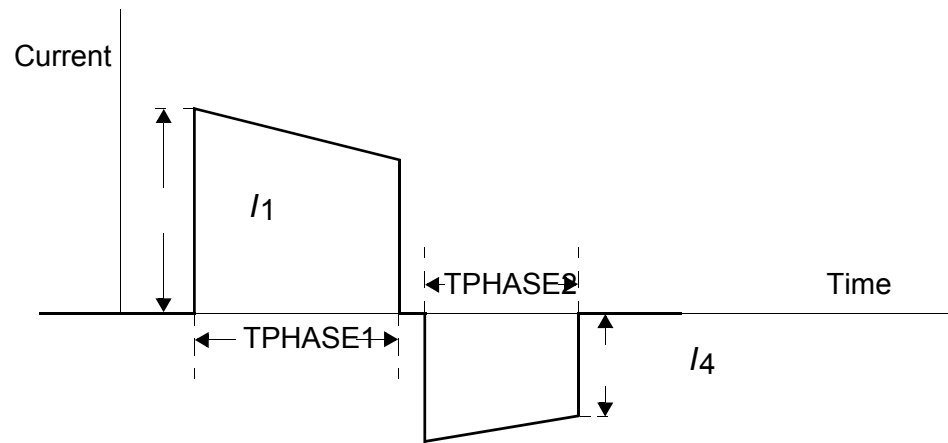

Figure 6.10—Output waveform specifications
4. Verify that the waveform meets the specifications in Figure 6.10 and Table 6.3 on page 205.